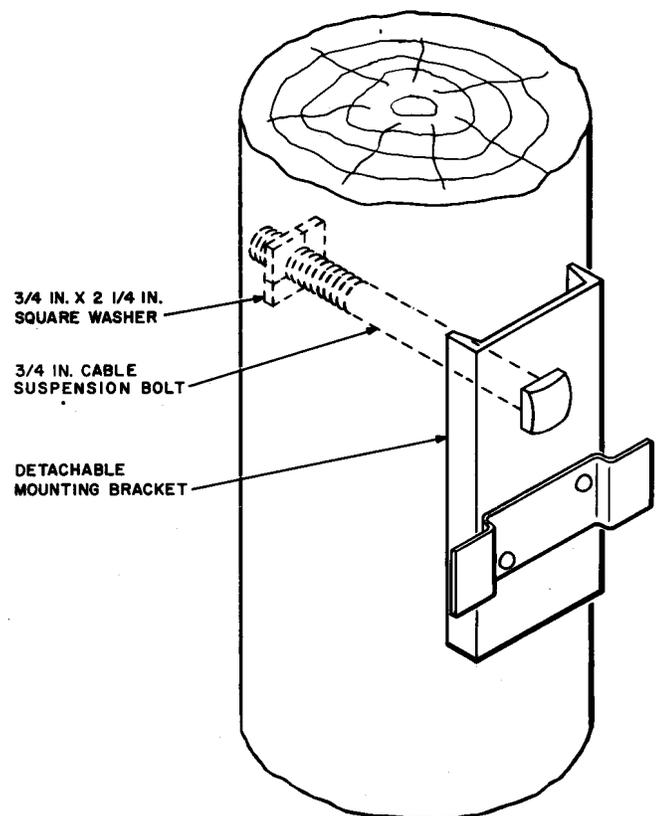

Fig. 5—Securing Detachable Mounting Bracket
- (1) Secure mounting bracket to pole as shown in Fig. 5, exercising care to level the cross member. Where the terminal is to be placed on a masonry wall, attach mounting bracket with a 1/2-inch machine bolt anchor and a 4-inch galvanized machine bolt or a 1/2 by 3-1/2 inch hammer drive anchor. Place a 9/16 by 1-3/8 inch round washer under the head of the machine bolt or under the collar of the hammer drive anchor.
- (2) Secure a rope sling to the handles at the top of the terminal so the top of the sling is above the stub cable support. Raise the terminal by means of block and tackle or a winch line passed through a snatch block secured to